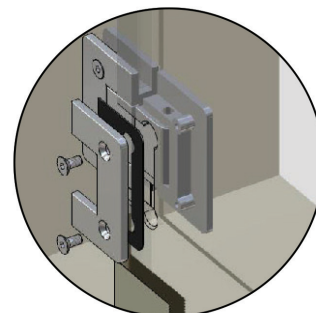

FIG 24.
- Fasten hinges to return panel and place in closed position. The screws should face into shower and the hinge pivot point should be on door panel (FIG 24). There must be 1x rubber gasket (supplied) between each hinge plate and the glass to prevent direct contact.